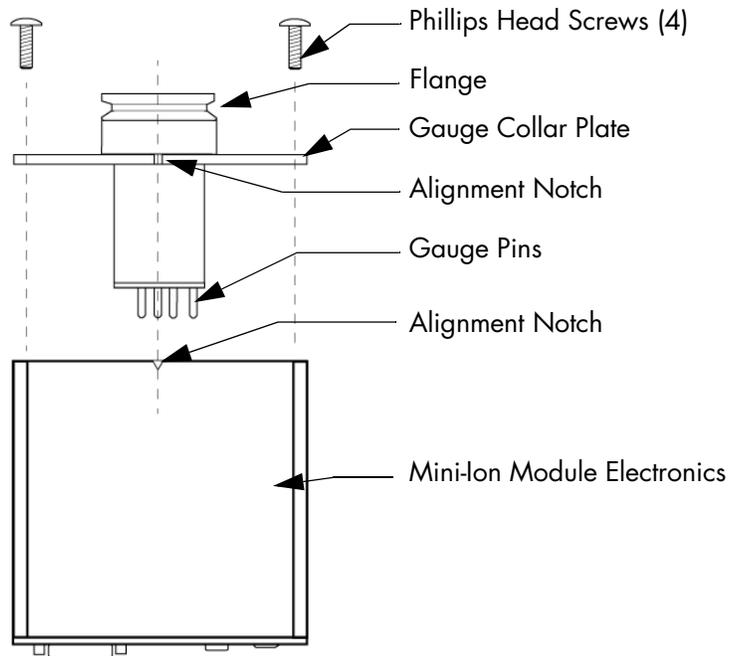

Figure 6-1 Mini-Ion Gauge Removal.
3. Remove the four screws (see Fig 6-1).
6. Reinstall the electronics enclosure onto the ion gauge. Note the alignment notches illustrated in Figure 6-1.
4. Remove the four Phillips head screws from the gauge collar plate as shown in Figure 6-1.
5. While holding the flange, *gently* pull the Mini-Ion Vacuum Gauge Module away from the gauge collar plate as shown in Figure 6-1. The gauge tube and plate will disconnect from the module.
4. Remove the four screws from the Mini-Ion Module. See Figure 6-1.